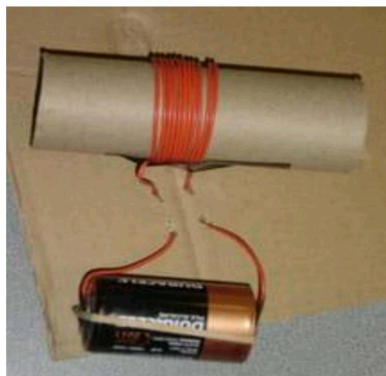

Figure 2. Setup for an Electromagnetic Field Station.
- 1) Prepare for Electromagnetic Field Stations: Wrap wire around a cardboard toilet paper tube 12-15 times to make a wire loop. Leave two long tails of wire hanging from the coil. Poke four holes in the cardboard. Weave the wire ends through the cardboard holes so that the cardboard tube and coil are attached to the cardboard (see Figure 2). Use clothespins, clamps or tape to secure the cardboard to a table or desk. Using masking tape or rubber band, connect one end of the coil wire to any battery, leaving the other end of the wire not connected to the battery. Place some pins, paperclips or tacks at the station. Also, place any other available extra batteries (6V, 12V, etc.) and two, small orienteering compasses at this station.
- Working from the pre-activity setup (see Figure 2), in which one end of the coiled wire is attached to one end of the battery, have students connect the other end of the wire to the other end of the battery using tape or rubber band.